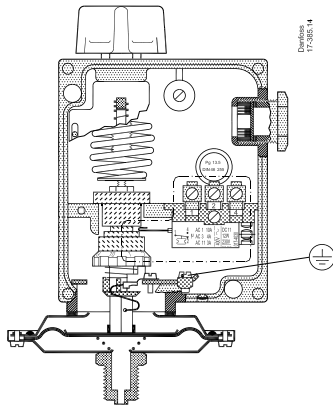
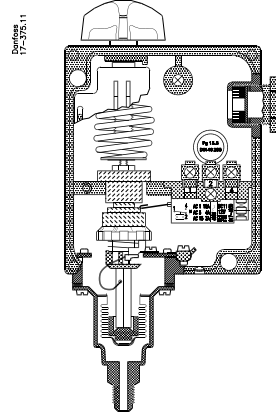
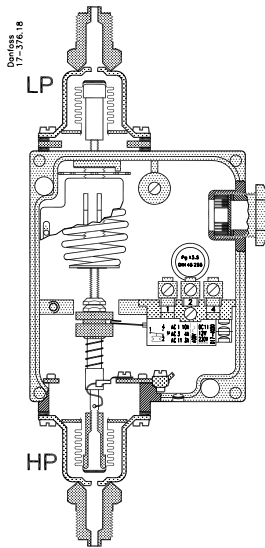
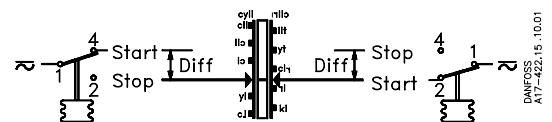

Fig. 1
Fig. 2
Fig. 4
Fig. 8
## Electrical connection (see fig. 8 and fig. 9)
**RT 1AE, RT 116E, RT 5E, RT 117E, RT 112E, RT 113E (see fig. 1, fig. 2 and fig. 8)**
**See fig. 4 and fig. 8**